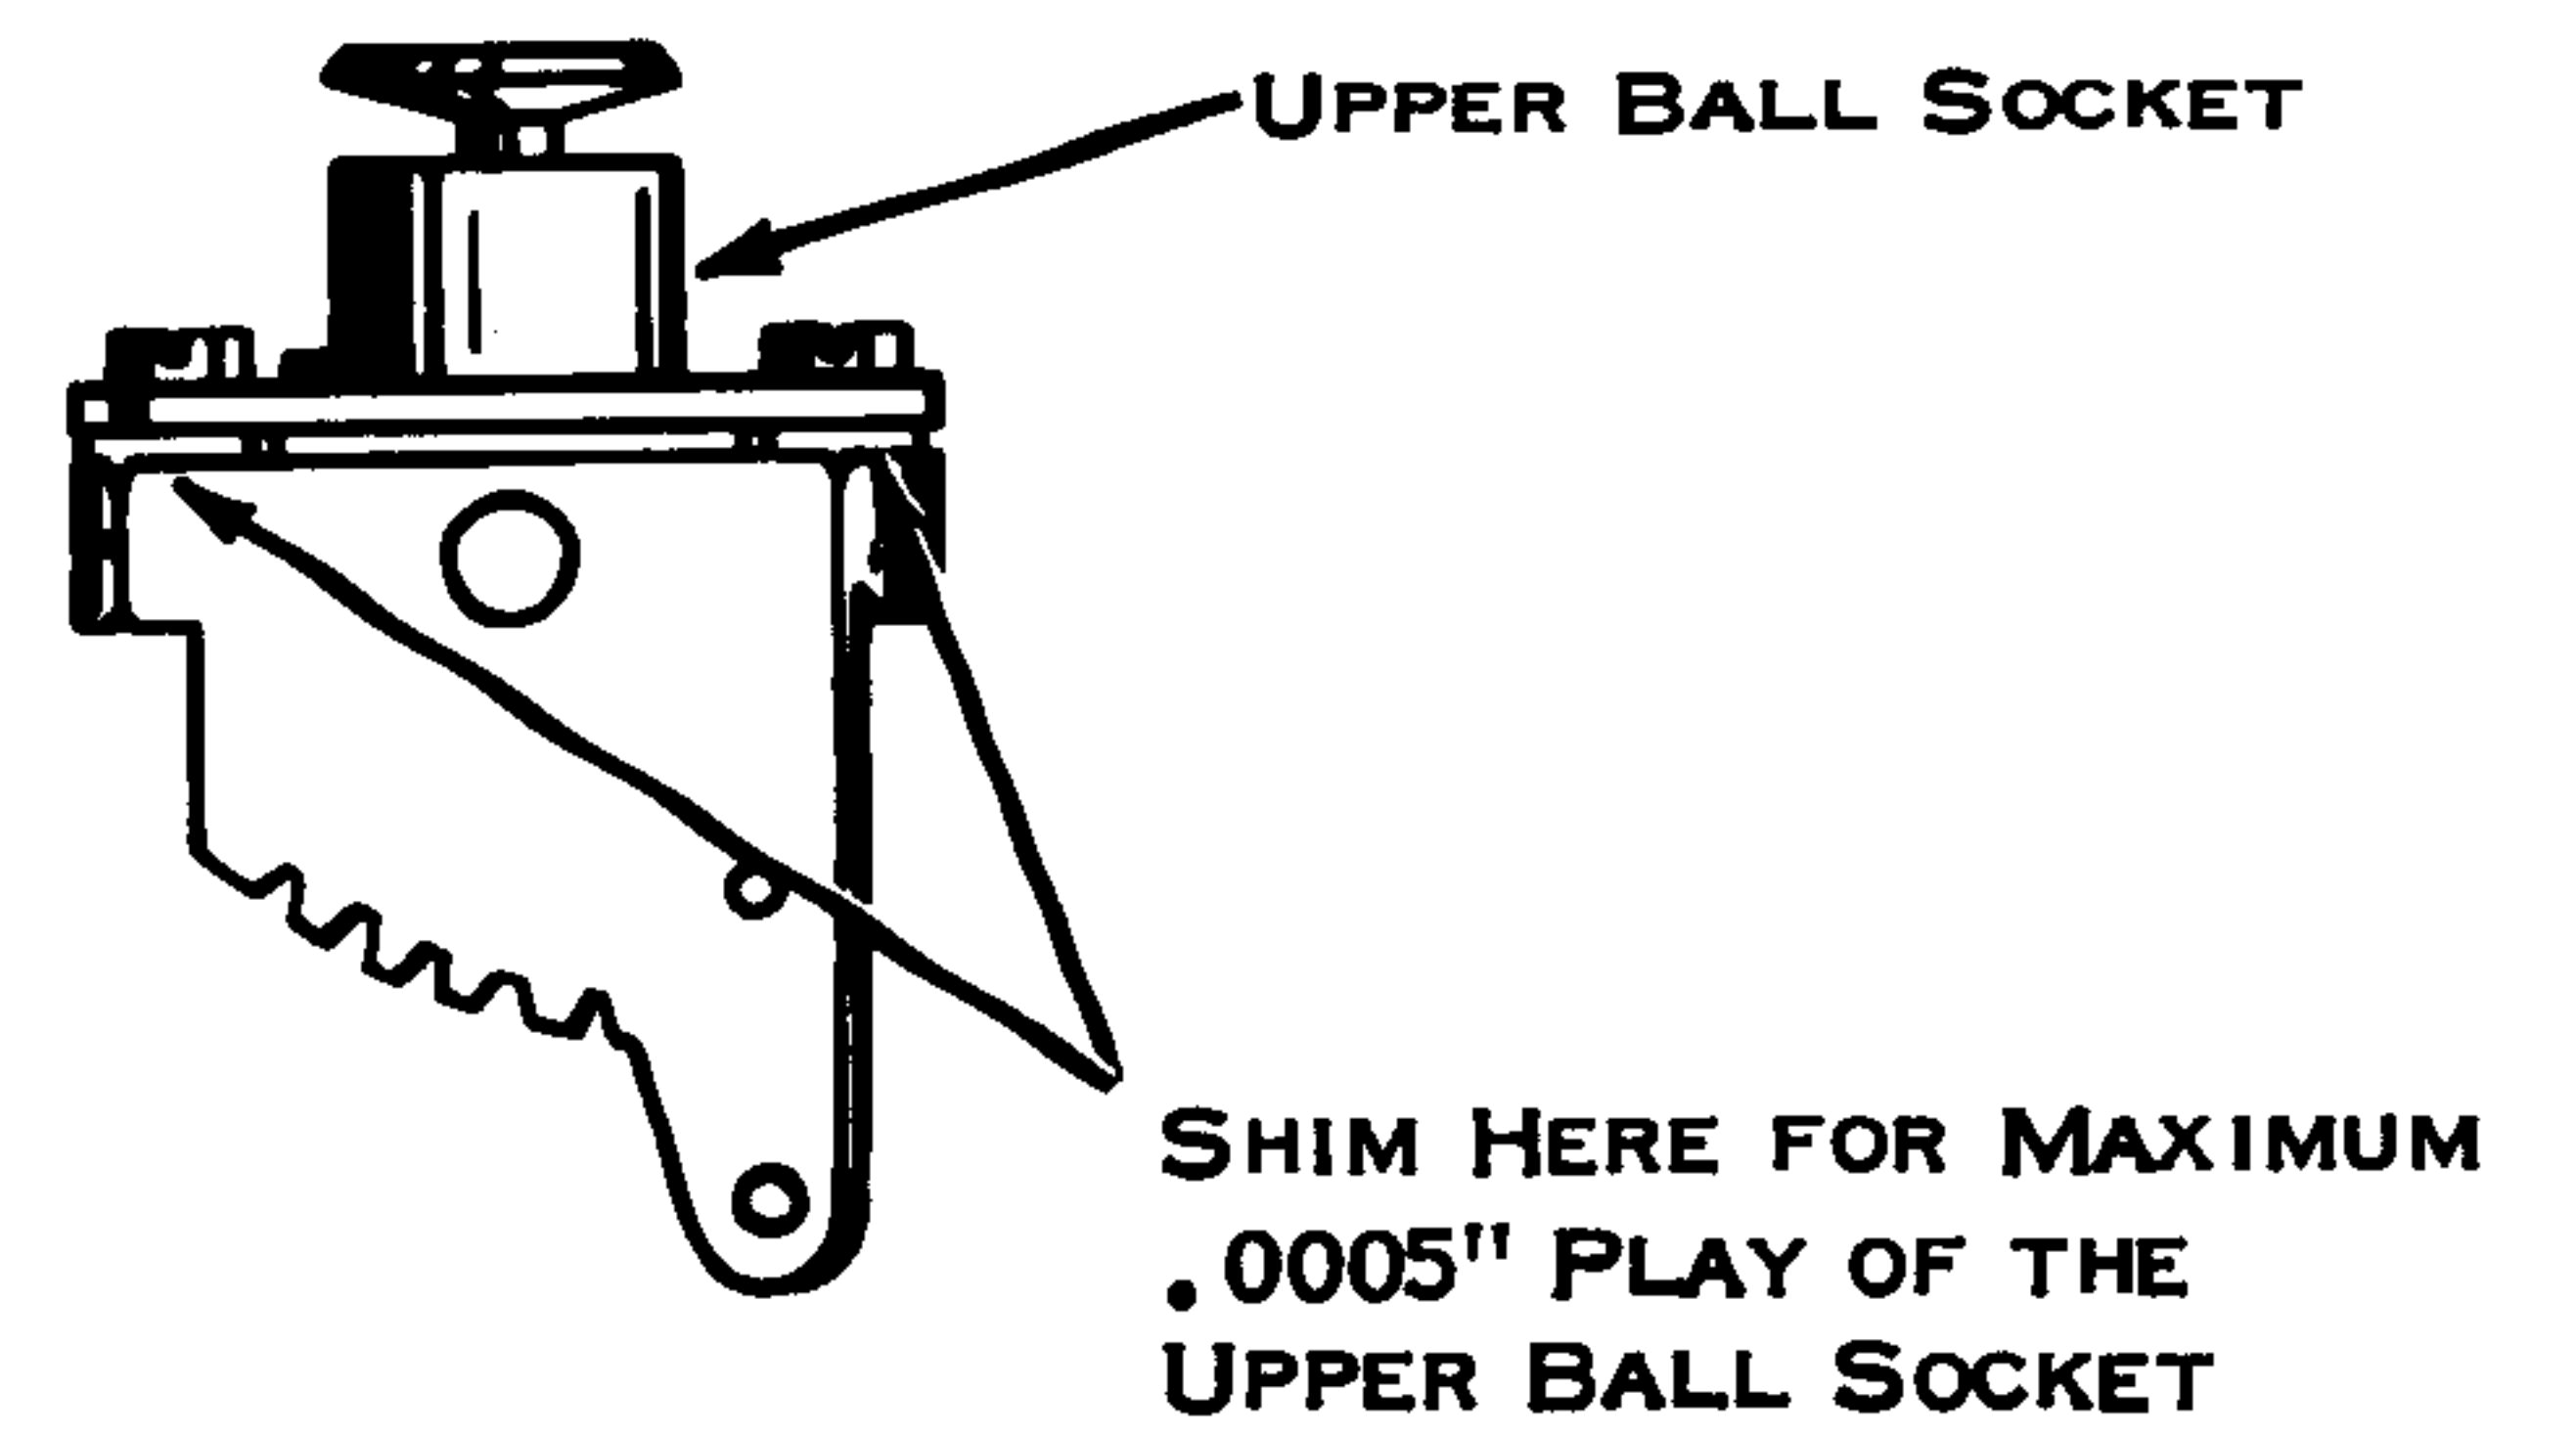

Figure 61. Upper Ball Socket
3. Upper Ball Socket (Fig. 61) - Shim so that it rotates freely with no binds and with as little up and down play as possible. The up and down play should be limited to .0005". CAUTION - If the tilt ring spacer is loosened, it must be properly repositioned. This may be done by gaging the space around the upper ball socket with the bristo wrench that fits the print shaft gear. Another method is to replace the head with the spacer screws slightly loosened and manually move the shift arm back and forth. Carefully remove the head and tighten.